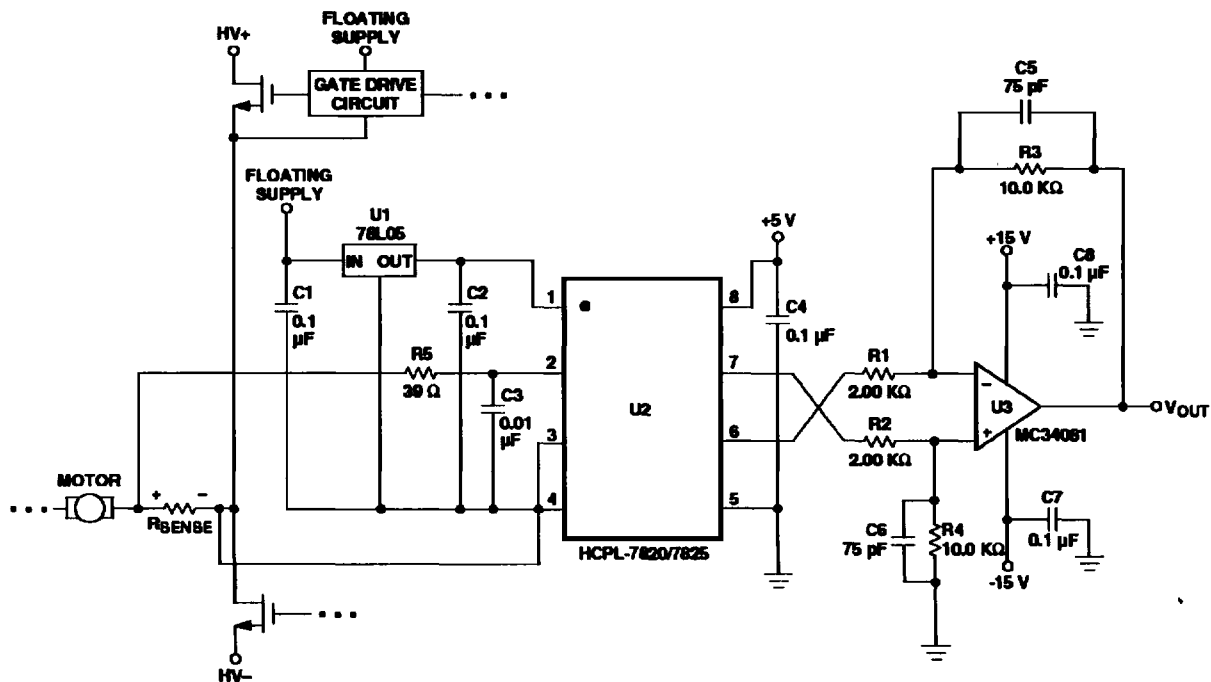

Figure 24. Recommended Application Circuit.
9. IMR (also known as CMR or Common Mode Rejection) specifies the minimum rate of rise of an isolation mode noise signal at which small output perturbations begin to appear. These output perturbations can occur with both the rising and falling edges of the isolation mode waveform and may be of either polarity. A CMR failure is defined as a perturbation exceeding 200 mV at the output of the recommended application circuit (Figure 24). See applications section for more information on CMR.
The recommended application circuit is shown in Figure 24. A floating power supply (which in many applications could be the same supply that is used to drive the high-side power transistor) is regulated to 5 V using a simple three-terminal voltage regulator (U1). The voltage from the current sensing resistor, or shunt (R_{SENSE}), is applied to the input of
As shown in Figure 24, 0.1 μF bypass capacitors (C2, C4) should be located as close as possible to the input and output power supply pins of the HCPL-7820/7825. The bypass capacitors are required because of the high-speed digital nature of the signals inside the isolation amplifier. A 0.01 μF bypass capacitor (C3) is also recommended at the input pin(s) due to the switched-capacitor nature of the input circuit. The input bypass capacitor should be at least 1000 pF to maintain gain accuracy of the isolation amplifier.
Figure 24. Pin 2 (V_{IN+}) is connected to the positive terminal of the shunt resistor, while pin 3 (V_{IN-}) is shorted to pin 4 (GND1), with the power-supply return path functioning as the sense line to the negative terminal of the current shunt. This allows a single pair of wires or PC board traces to connect the isolation amplifier circuit to the shunt resistor. In some applications, however, supply currents flowing through the power-supply return path may cause offset or noise problems. In this case, better performance may be obtained by connecting pin 3 to the negative terminal of the shunt resistor separately from the power supply return path. When connected this way, both input pins should be bypassed. Whether two or three wires are used, it is
The recommended application circuit (Figure 24) includes a post-amplifier circuit that serves three functions: to reference the output signal to the desired level (usually ground), to amplify the signal to appropriate levels, and to help filter output noise. The particular op-amp used in the post-amp is not critical; however, it should have low enough offset and high enough bandwidth and slew rate so that it does not adversely affect circuit performance. The offset of the op-amp should be low relative to the output offset of the HCPL-7820/7825, or less than about 5 mV.
shown in Figure 24 form a differential amplifier with a gain of 5 and a cutoff frequency of approximately 200 kHz and were chosen as a compromise between low noise and fast response times. The overall recommended application circuit has a bandwidth of 130 kHz, a rise time of 2.6 μ s and delay to 90% of 4.2 μ s.